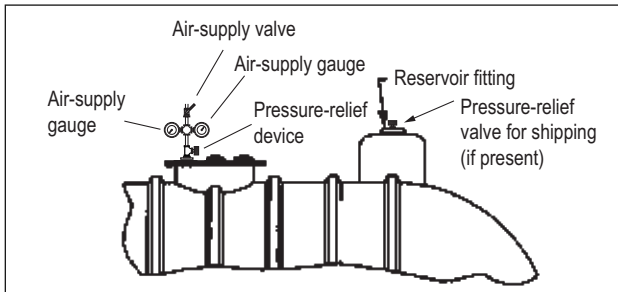

FIGURE 3-5
3.7.1. When air testing a tank with a wet interstitial space, keep the tank vertical (the reservoir on top) at all times or the monitoring fluid may drain from the reservoir. (See FIGURE 3-5.)